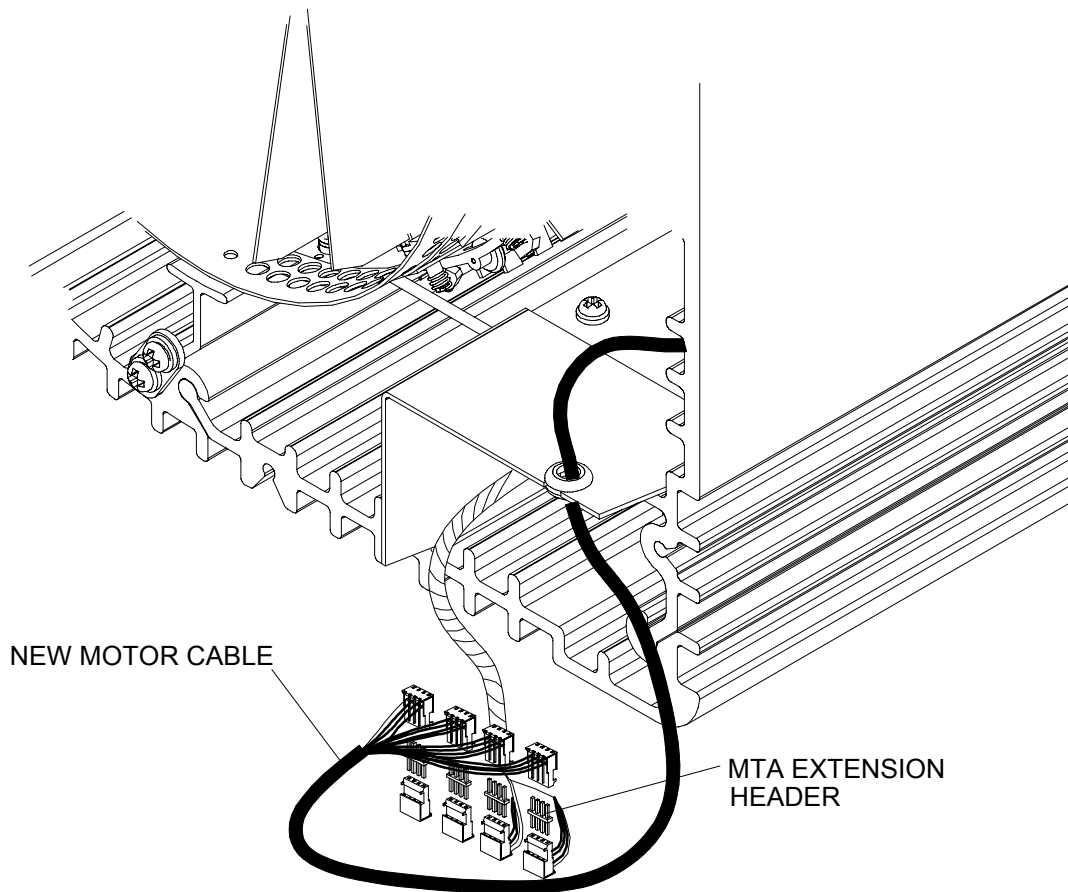

Figure 4.6 - MTA Extension Header Installation
12. At linear actuator motor cables, using four male/male headers, connect four 4-position MTA connectors. Make sure pin 1 of new motor cable matches pin 1 of linear actuator cable. See Figure 4.6 - MTA Extension Header Installation.
9. At linear actuator motor cables, using four MTA extension headers, connect four 4-position MTA connectors. Make sure pin 1 of new motor cable matches pin 1 of linear actuator cable. See Figure 4.6 - MTA Extension Header Installation.